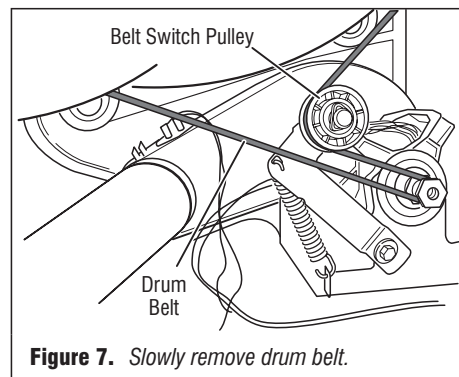

Figure 7. Slowly remove drum belt.
- Check the belt switch and drive motor. Access the belt switch and drive motor by removing the back panel. See Removing the Back Panel, page 11. Slowly remove the drum belt from the spring-loaded belt switch pulley, gently letting the belt switch pulley down. See figure 7.